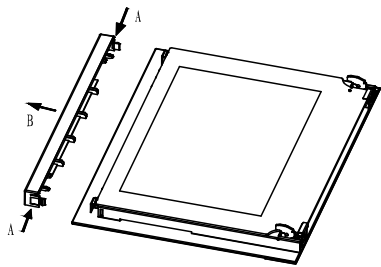

Fig.1
1. Press the button on left and right side of door (A), take out top rail pulling in direction B (Fig.1)